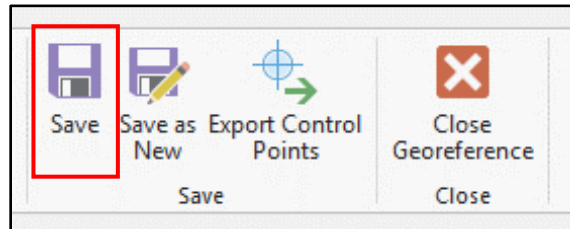

Figure 33. Saving georeferenced TIFF in ArcGIS Pro.
- Once complete aligning control points and satisfied with location, click "Save" in the Georeferencing toolbar and it will save the spatial information with the TIFF (Figure 33, below).